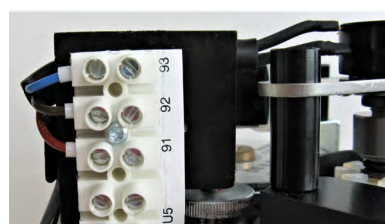

Fig. 19: Wiring the potentiometer
- Connect the potentiometer to the terminal block of the actuator: terminal 91 = red, terminal 92 = brown, terminal 93 = blue (Fig. 19, below). Trim the ferrules if necessary.